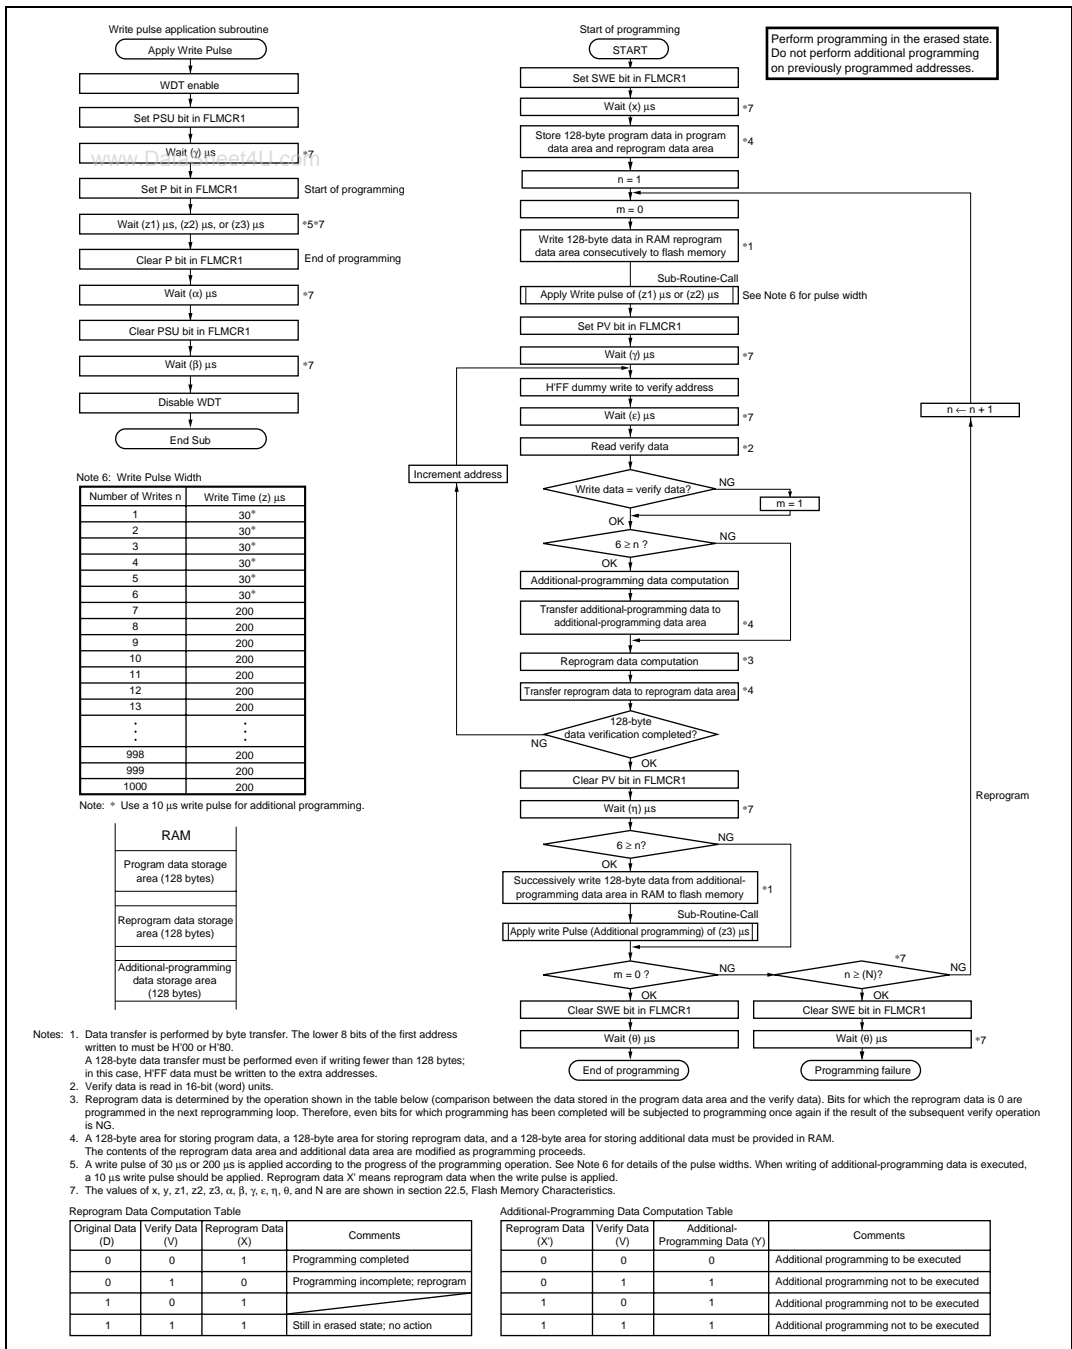

Figure 16.9 Program/Program-Verify Flowchart
When writing data or programs to the flash memory, the program/program-verify flowchart shown in Figure 16.9 should be followed. Performing programming operations according to this flowchart will enable data or programs to be written to the flash memory without subjecting the chip to voltage stress or sacrificing program data reliability.
3. Prepare the following data storage areas in RAM: A 128-byte programming data area, a 128-byte reprogramming data area, and a 128-byte additional-programming data area. Perform reprogramming data computation and additional programming data computation according to Figure 16.9.
5. The time during which the P bit is set to 1 is the programming time. Figure 16.9 shows the allowable programming times.
8. The maximum number of repetitions of the program/program-verify sequence of the same bit must not exceed (N).